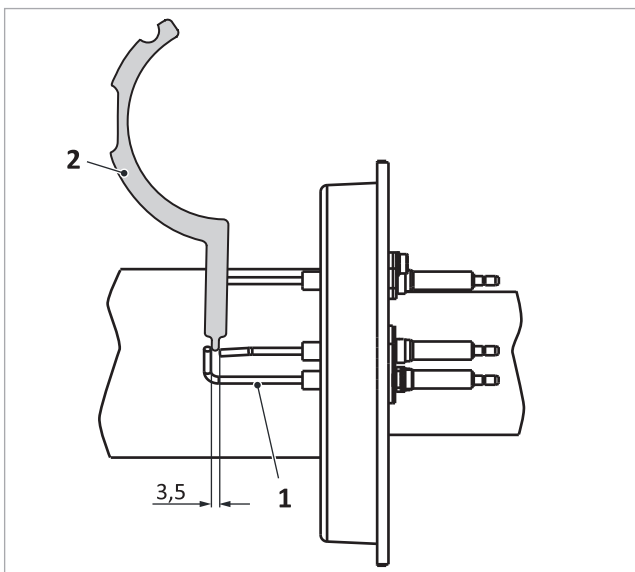

Fig. 111: Clearance from electrode to gauges on the ignition electrode
1. Check the clearance of the ionisation electrode using an electrode gauge → fig. 111 (2) (if necessary, correct it by through careful bending).
- Electrodes below one another → fig. 111 (1): 3.5 mm